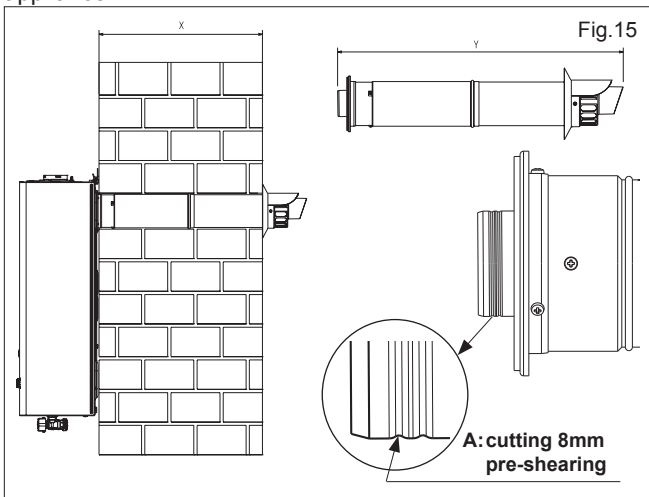

Fig.15
5.5.1.2 FITTING THE REAR FLUE (fig. 15) (rear flue outlet only)
NOTE: The inner 60mm pipe of the rear flue terminal must be cut by 8mm at the point indicated (fig. 15 pos. A).